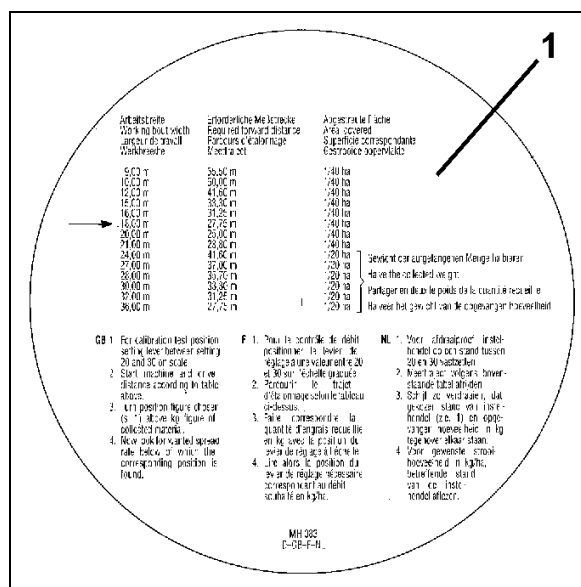

Fig. 48
- The table for determining the required test distance [m]. (Fig. 48).
2. For the desired working width **18 m** read off table (**Fig. 48/1**) the required test distance **27,75 m**.